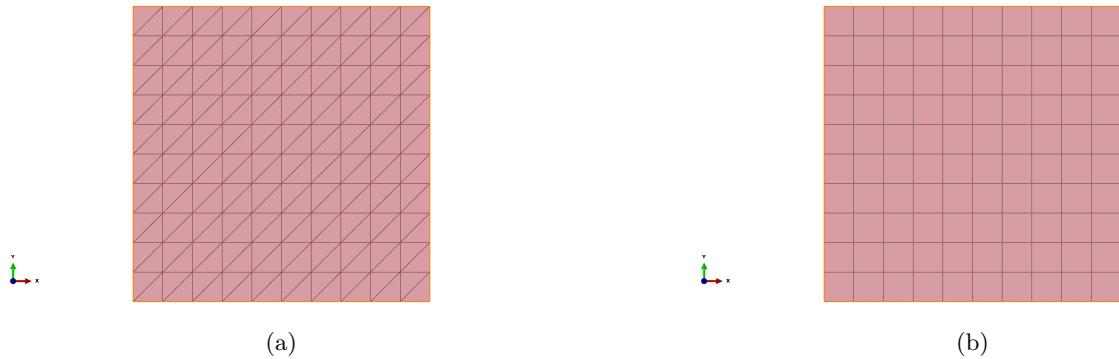

Fig. 2
- (a) Discretize the domain using 50, 200 and 5000 triangular elements, respectively(Hint: generate the meshes following the pattern shown in Fig. 2(a) and implement your algorithm in the Matlab function named generate_mesh.m).
- (b) Discretize the domain using 25, 100 and 2500 quadrilateral elements, respectively (Hint: generate the mesh following the pattern shown in Fig. 2(b) and implement your algorithm in the Matlab function named `generate_mesh.m`).